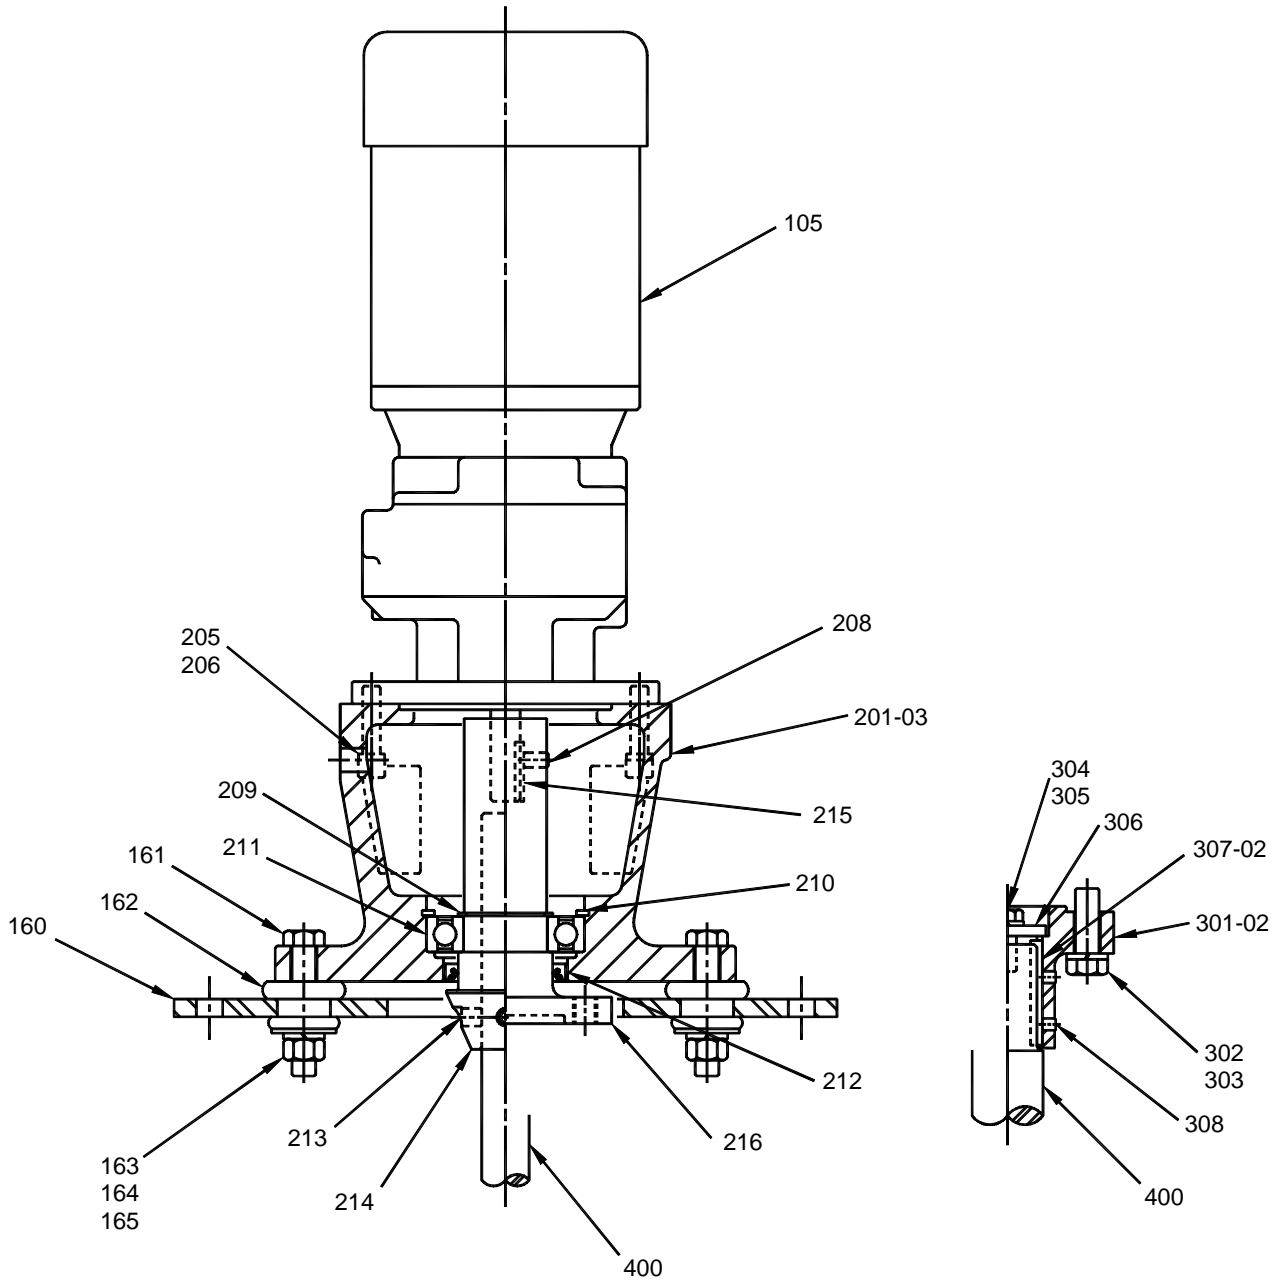
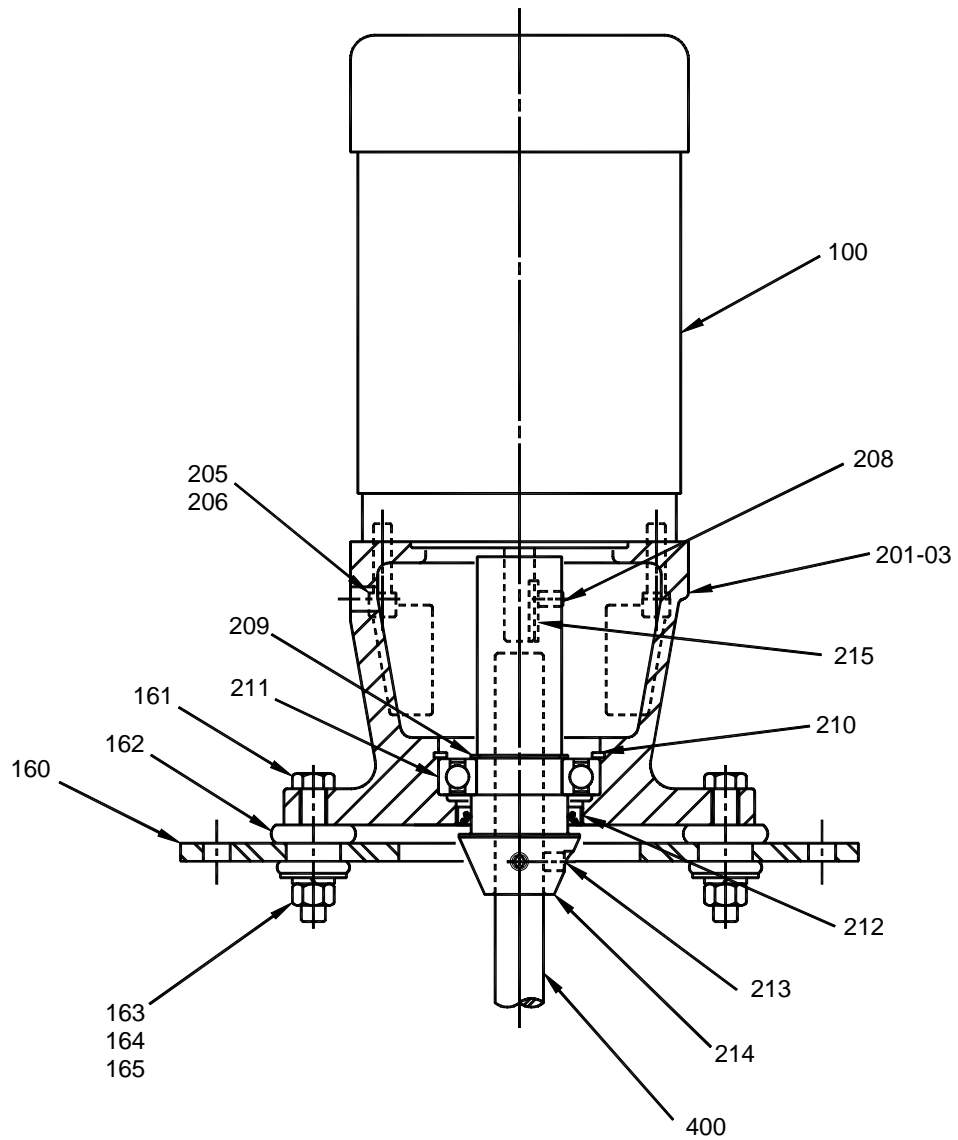

Figure 2: Models 20DTD, 40DTD
Figure 3: Model 30DTD
2. Remove the flat plate [160] assembly from the shipping carton and assemble to drive housing [201-03] as shown in *Figure 2, page 7 and Figure 3, page 8*. Mount drive to support structure using customer supplied fastener set (1/2" bolts).